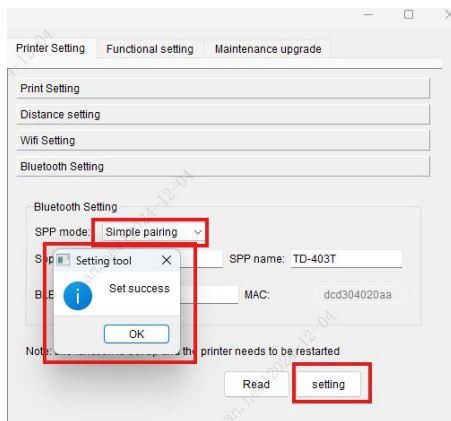
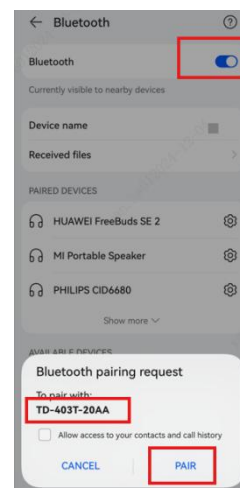

Fig.35
Fig.36
- ① Simple Pairing: Select "Simple Pairing" for the SPP connection mode, click **[setting]** (shown in Fig.35), and restart the printer after successful setup. Taking a mobile phone as an example, turn on the phone's Bluetooth, find the printer's Bluetooth, and click to connect. In the pairing request that pops up, click "Pair" to successfully connect (shown in Fig.36).